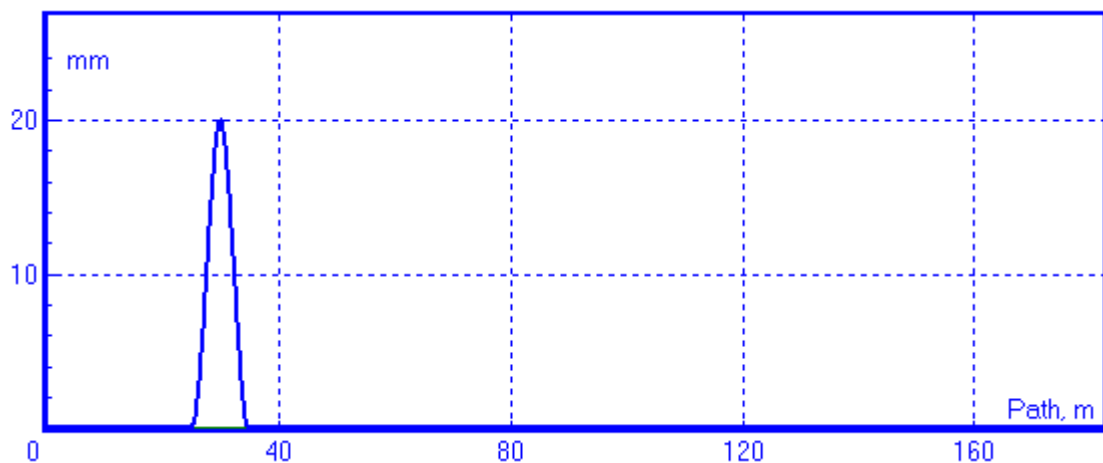
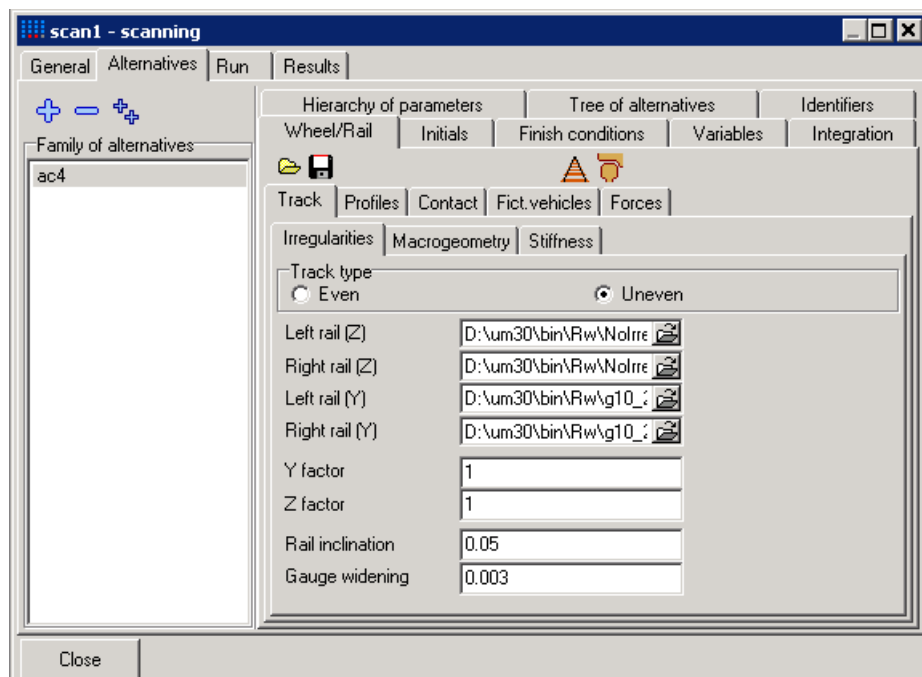

Figure 3.8. Single lateral irregularity. File **g10_20.way**
Figure 3.9. Railway track irregularities
1. Firstly, let's define track irregularities. Select the **Alternatives / Wheel/Rail / Track / Irregularities** tab. Open file **NoIrregularities.way** for vertical irregularities (Z) and **g10_20.way** (see Fig. 3.8) in lateral (Y) direction, see Fig. 3.9.